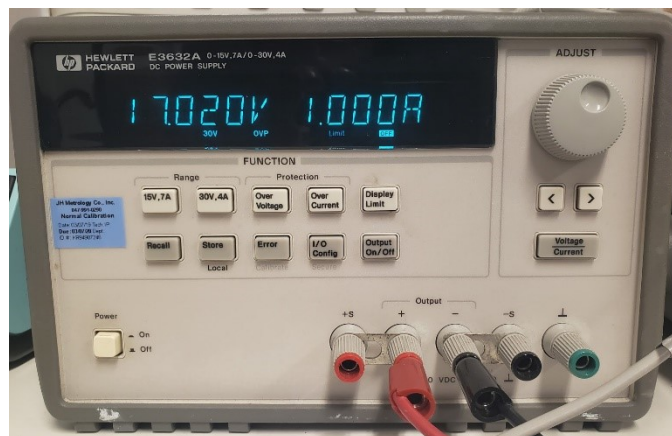

Figure 26: Power Amplifier VPA Setting
- 2) Set the power supply voltage source to 17V, 1A, see Figure 26.